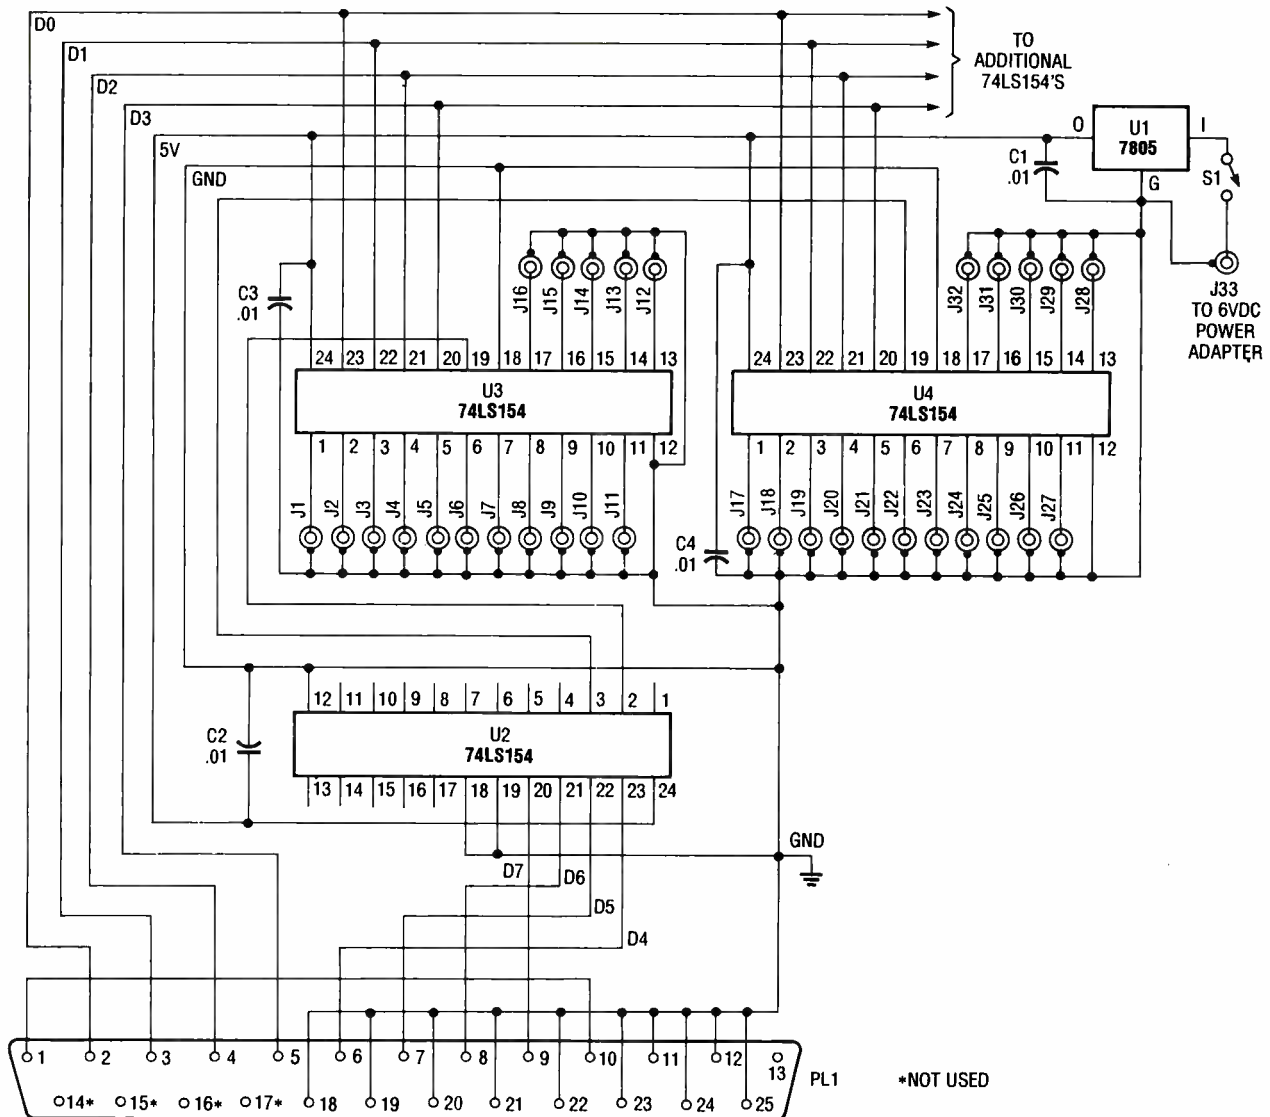

Fig. 2. This is the schematic diagram of the Portmaster. Despite its versatility, it doesn't take many parts at all to build the circuit.
**Handling 8-Bits with 4-Bit IC's.** So how do chips that handle 4 bits deal with the 8 bits from a computer? To help answer that question, take a look at Fig. 2. The data bits, D0–D7, come from the computer via pins 2–9 on a DB-25 connector, PL1. When they arrive at the Portmaster, they are separated into two groups: a low nibble (D0–D3) and a high nibble (D4–D7).